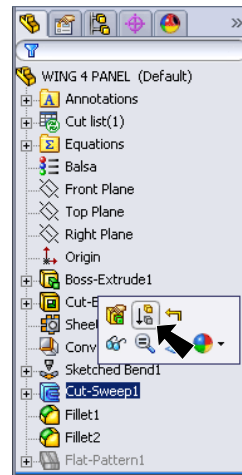

Fig. 22
Step 2. Suppress features below the **SketchedBend1**. To Suppress, click **Cut-Sweep1** in the Feature Manager and click **Suppress**  from the Content toolbar, **Fig. 22**.